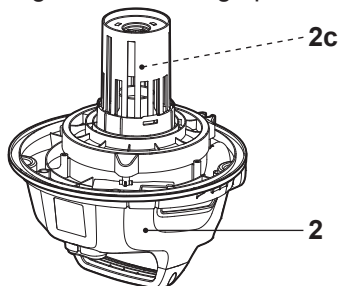

Fig. 19
The product is designed with a safety valve (2c) to prevent water from entering into the motor unit (2) during wet vacuuming operations (Fig. 19).